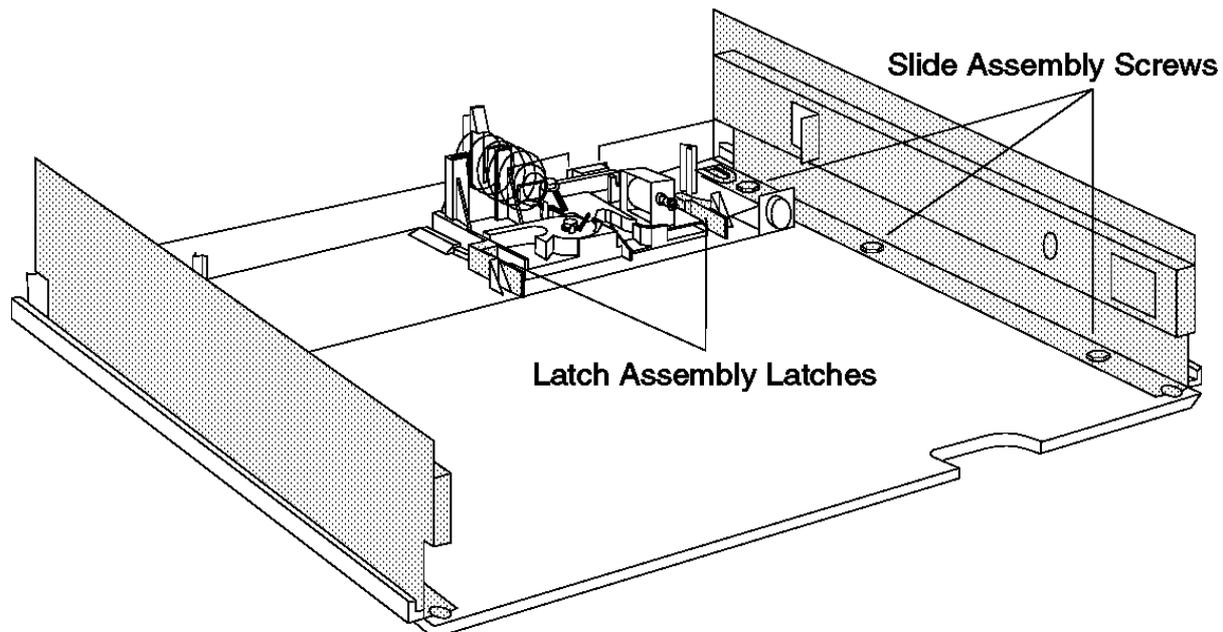

Figure 2-8. Removing and Replacing the Slide Assembly
4. Remove the 3 screws that secure the slide to the base and lift the slide assembly out. See Figure 2-8 in topic 2.3.6.
4. Reach in from the front and push the latch on each side of the latch assembly inward while pulling the assembly toward the front. See Figure 2-8.